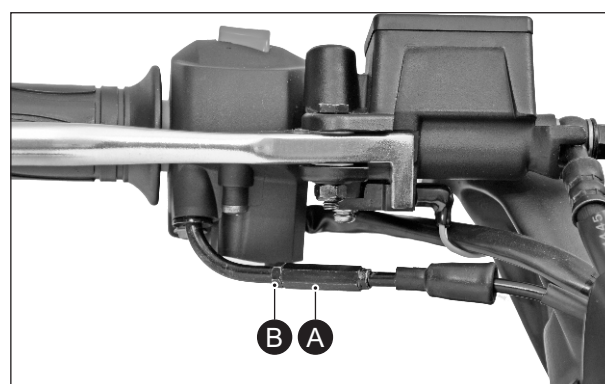

Fig. 2.72
- Gently pull the throttle cable while holding the adjuster (A) to check the free play. (Fig. 2.72) If the free play is more or less adjust as follow: